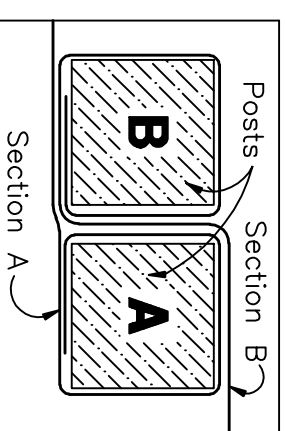

Figure 1:
*Adjacent rolls of silt fence should be joined by nesting the end post of one fence into the nesting slot of the adjacent roll. The rolls rotate each post until the geotextile is wrapped completely around the post, then about the end post to create a tight seal as shown in Figure 1.